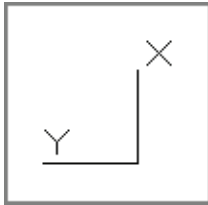

FIGURE 2.18
7. Type **90**, and press Enter to rotate the coordinate system. Observe that the UCS icon has changed to reflect the new orientation (see Figure 2.18).